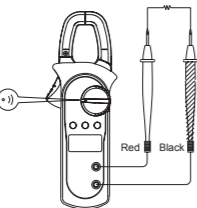

Figure 6
D. Testing for Continuity (See Figure 6)